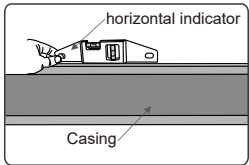

Figure 5
4. Use the horizontal indicator to make sure the screen are at horizontal level (Figure 5).